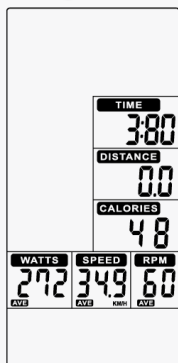
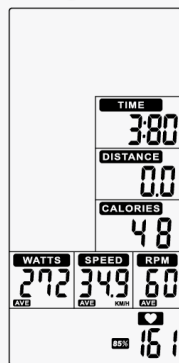

Figure 19
Figure 21
6. With pulse signal input, PULSE window will display user actual pulse and 65%, 85% MAX (Figure 21~23). Pulse window displays nothing if no pulse signal input (Figure 19~20).
8. With pulse signal input, PULSE window will display user actual pulse and 65%, 85% MAX (Figure 21~23). Pulse window displays nothing if no pulse signal input (Figure 19~20).
11. With pulse signal input, PULSE window will display user actual pulse and 65%, 85% MAX (Figure 21~23). Pulse window displays nothing if no pulse signal input (Figure 19~20).
7. With pulse signal input, PULSE window will display user actual pulse and 65%, 85% MAX (Figure 21~23). Pulse window displays nothing if no pulse signal input (Figure 19~20).
6. Press STOP key or end up training, TIME will display total workout time; DISTANCE will display total workout distance. CALORIES will display total consumption during workout; WATT, SPEED and RPM will switch to display AVG. & MAX. PULSE window will switch to display 65%, 85% MAX (Figure 21~23) each 5s.